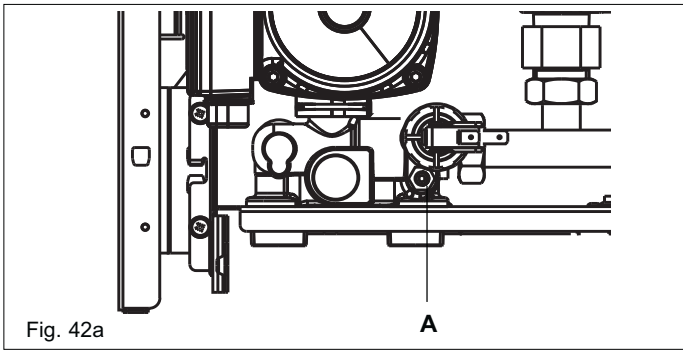

Fig. 42a
6. SYSTEM DRAIN (Fig. 42a)
The whole of the heating system must be flushed both cold and hot as detailed in Fig. 42a. Open all radiator or heating valves and the boiler flow & return service valve. Drain the boiler and system from the lowest points. Open the drain valve full bore to remove any installation debris from the boiler prior to lighting. Refill the boiler and heating system.